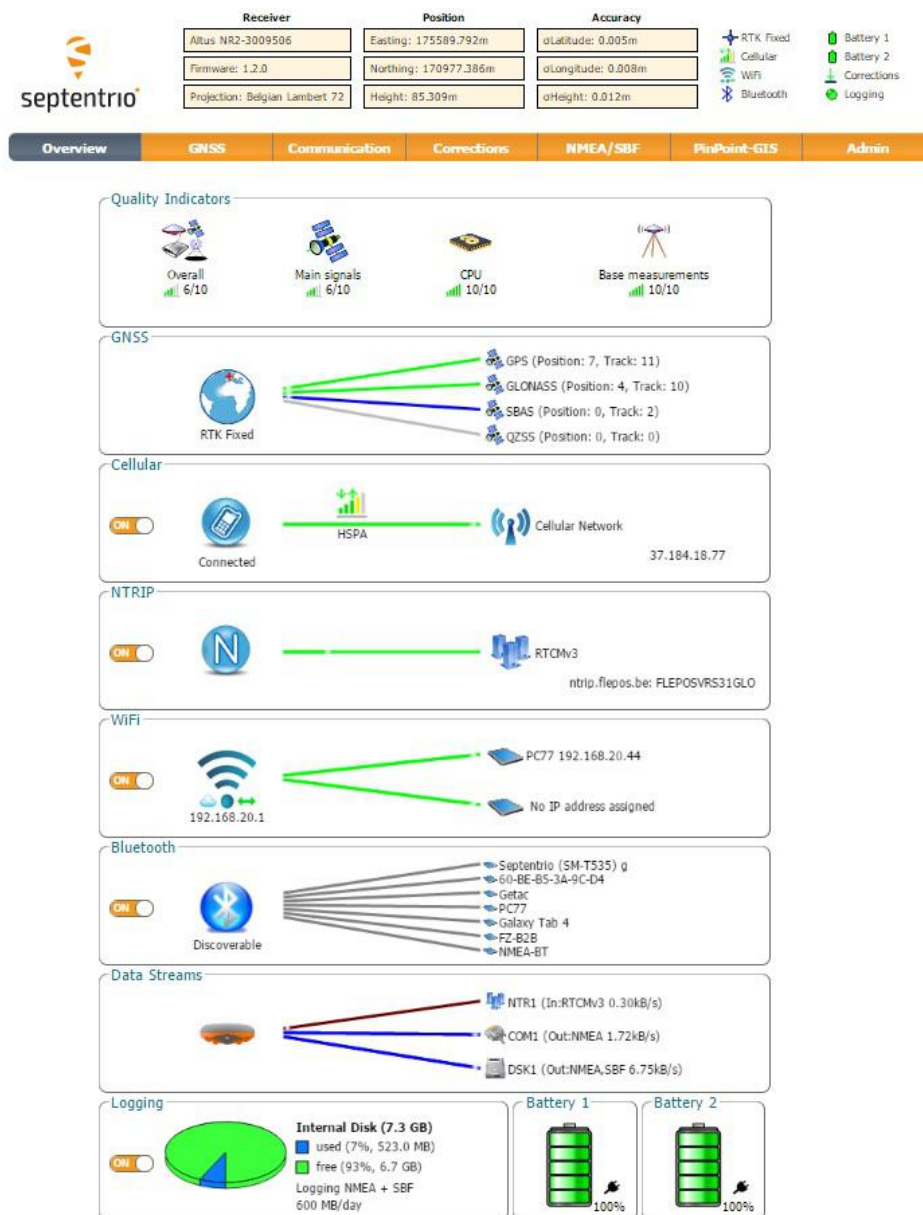

Figure 3-3: Web Interface Overview Tab
4. Open a browser and type the IP **192.168.20.1** or **altusnr2/** in the address bar. The browser will open the 'Overview' page of the Web Interface shown in Figure 3-3.